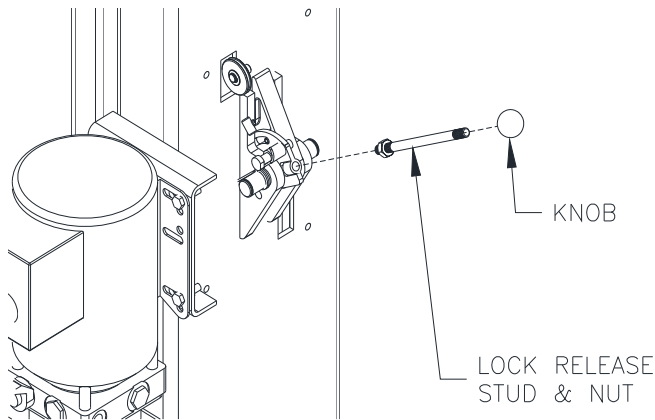

Fig 19– Lock Release Cover
- 37) Attach Lock Release Stud and M10 Hex Jam Nut to Lock Release Cam. See **Fig 19**.